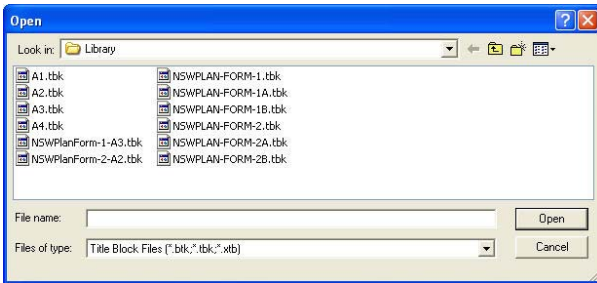

Figure 13-51. Open Dialog Box
2. Select an alignment or string, as stated in the prompt line. The *Microsoft Windows Open* dialog box appears (Figure 13-51).